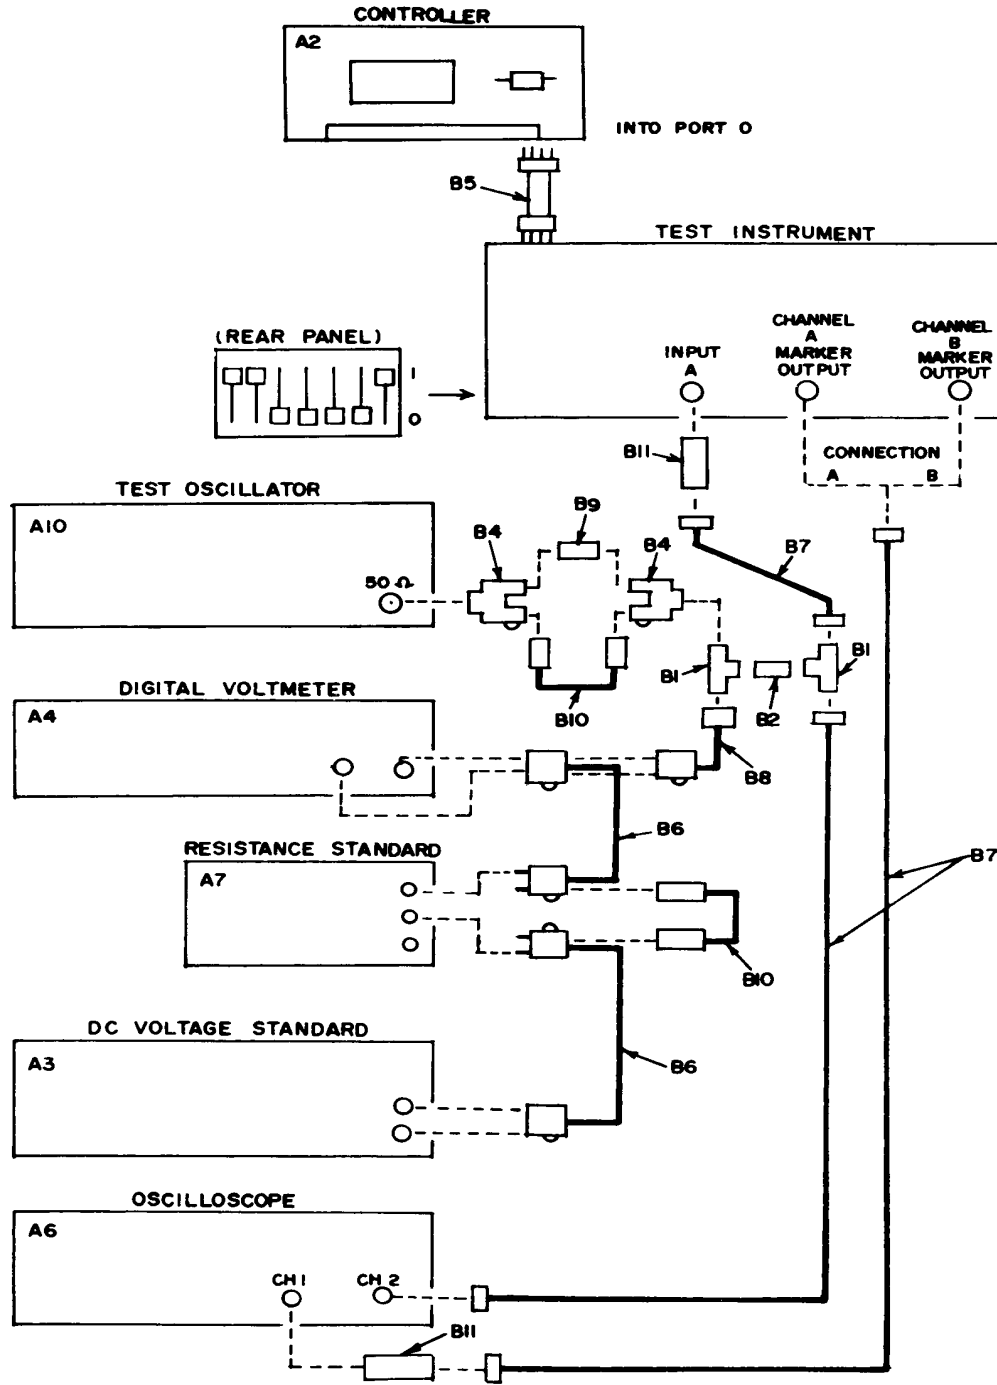

Figure 4. Trigger level adjustment - equipment setup.
- (1) Connect equipment as shown in figure 4, connection A.
- (7) Connect equipment as shown in figure 4, connection B.
- (9) Connect equipment as shown in figure 4, connection A.
- (10) Program controller as follows: PRINT@1,"PF4G6S13A379+2 $\emptyset\emptyset$ *B37+2 $\emptyset\emptyset$ *R".
- (11) Adjust dc voltage standard for a + 2.00000-V indication on digital voltmeter.
- (13) Connect equipment as shown in figure 4, connection B.
- (15) Connect equipment as shown in figure 4, connection A.
- (16) Program controller as follows: PRINT@1,"PF4G6S13A379-2 $\emptyset\emptyset$ *B37-2 $\emptyset\emptyset$ R".
- (17) Adjust dc voltage standard for a -2.00000-V indication on digital voltmeter.
(19) Connect equipment as shown in figure 4, connection B.